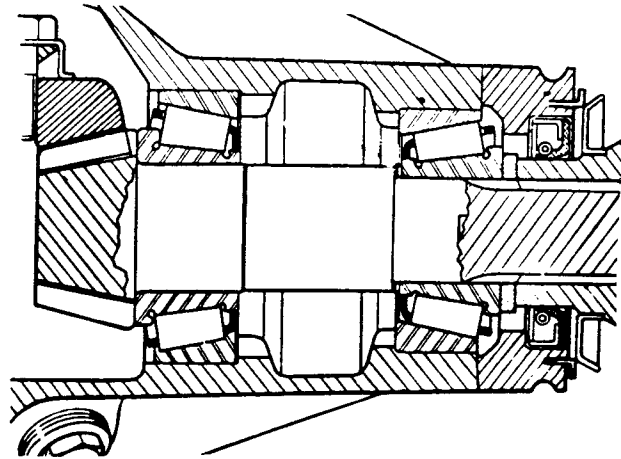

Fig J2.57
- (4) Refer to Fig J2.57. If necessary, adjust the thickness of shims between the pinion head bearing outer race and the pinion case to obtain the correct clearance. Use special tool 262757 to remove outer race.